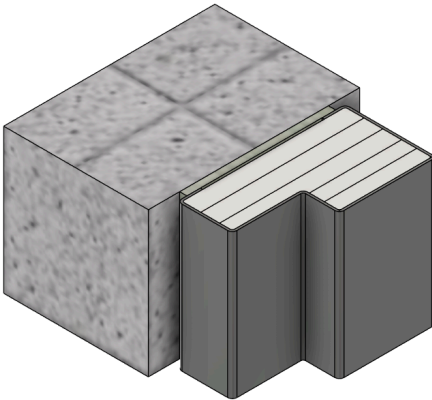
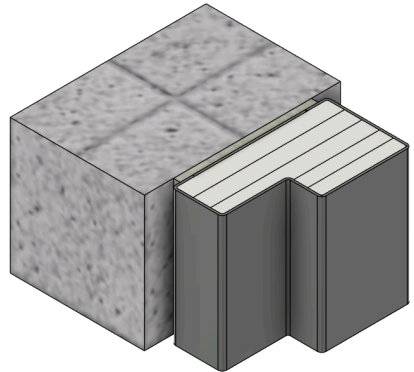
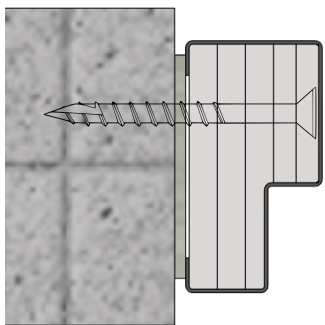

Fig.13
Fig.17
Fig.18
Step 3. Permanently Fix Steel Frame, All Sides. Fix through the face of the steel jamb into the concrete. Screw placements as Fig.17 and Fig.18. (same render as Fig.13)
Fixing screw positions shall be a minimum of 120 mm from the top and bottom of the jamb, with a maximum spacing of 500 mm between screw centres and one screw at jamb height / 2 (Fig.17, Fig.18, Fig.25)